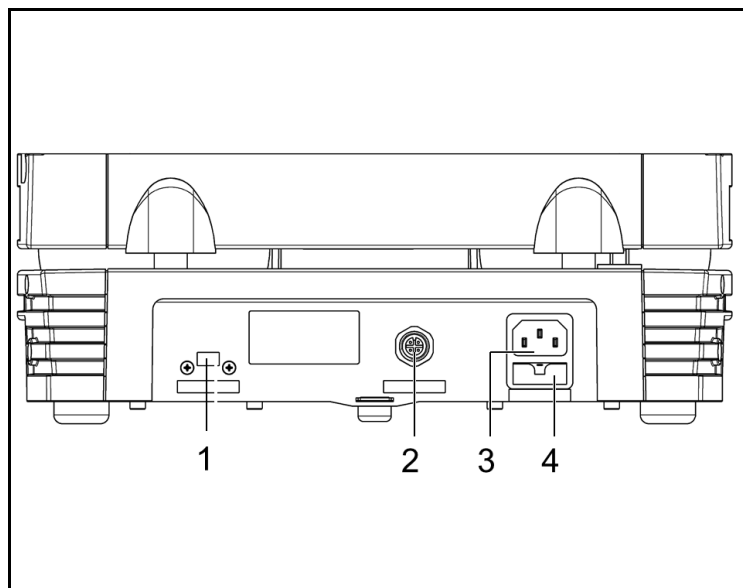

Fig. 3: Plug strip on rear of base (Fig. 2/10)
- i** Connect only the KNF coolant valve (see Chapter 11.2, Accessories) to the coolant valve connection (Fig. 3/2, page 12). Consult with KNF before using any other valves.